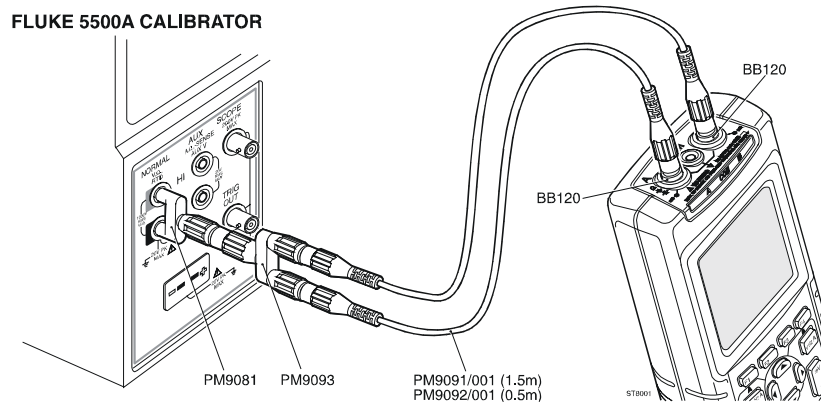

Figure 4-9. Test Tool Input 1 & 2 5500A Normal Output
1. Connect the test tool to the 5500A as shown in Figure 4.9.
1. Connect the test tool to the 5500A as for the previous test shown in Figure 4-9.